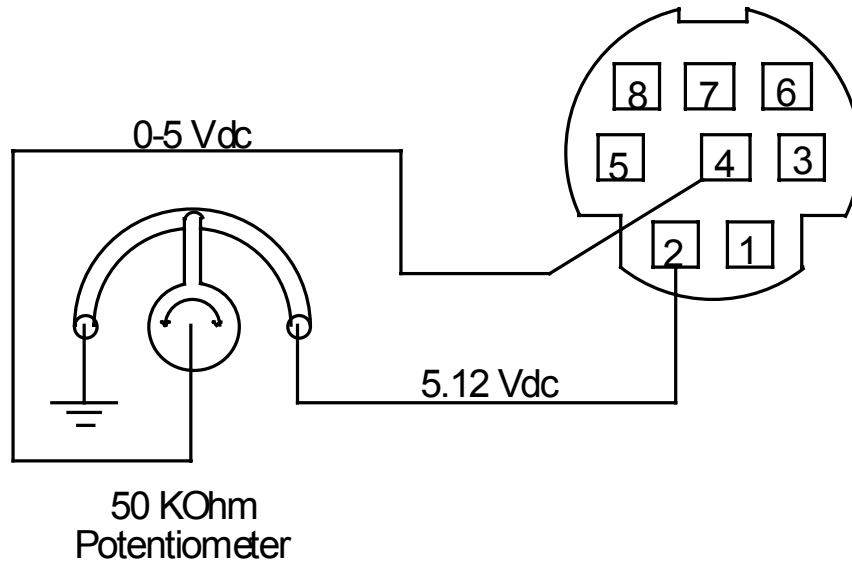

Figure 3. Simple Method for Providing Set-Point to Controllers
**Note:** Upon initial review of the pin out diagram in Figure 2, it is common to mistake Pin 2 (labeled **5.12 Vdc Output**) as the standard 0-5 Vdc analog output signal! In fact Pin 2 is normally a constant 5.12 Vdc that reflects the system bus voltage and can be used as a source for the input signal. This allows the user in the field to run this output through a 50K ohm potentiometer and back into the analog set point pin to create a 0-5 Vdc set point source (see Figure 3).
Unless ordered otherwise, 0-5 Vdc is the standard analog input signal. Apply the 0-5 Vdc input signal to pin 4, with common ground on pin 8. The 5.12 Vdc output on pin 2 can be wired through a 50K ohm potentiometer and back to the analog input on pin 4 to create an adjustable 0-5 Vdc input signal source as in Figure 3 below.